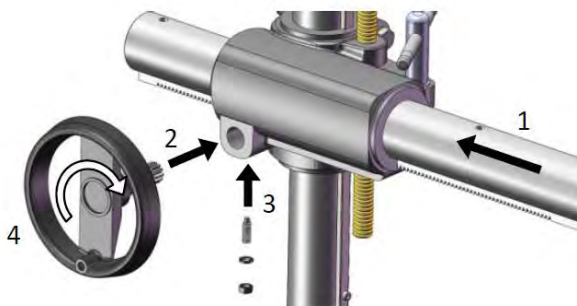

Fig. 18: Secure the handle
Step 3: Insert the arm into the guide (Pos.1, Fig. 18), insert the handwheel (Pos. 4, Fig. 18) and fix with screw (Pos. 3, Fig. 18). Mount the guide on the stand support. Turn the handwheel several times to check that it moves smoothly.